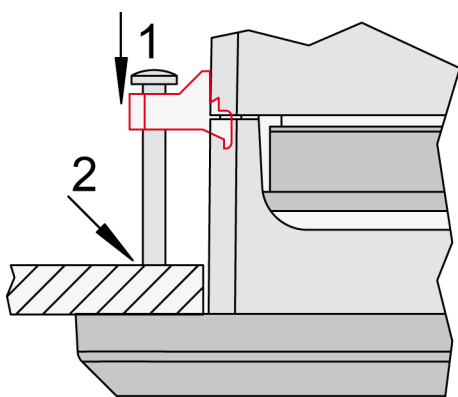

Fig. 22: Tighten clamping screws
6. ➔ Tighten the clamping screws (Fig. 22/1) until the control unit is secured to the control panel (Fig. 22/2). Over tightening of these screws may result in the clamp inserts or the housing breaking. Do not exceed the recommended tightening torque of 0.1 Nm.